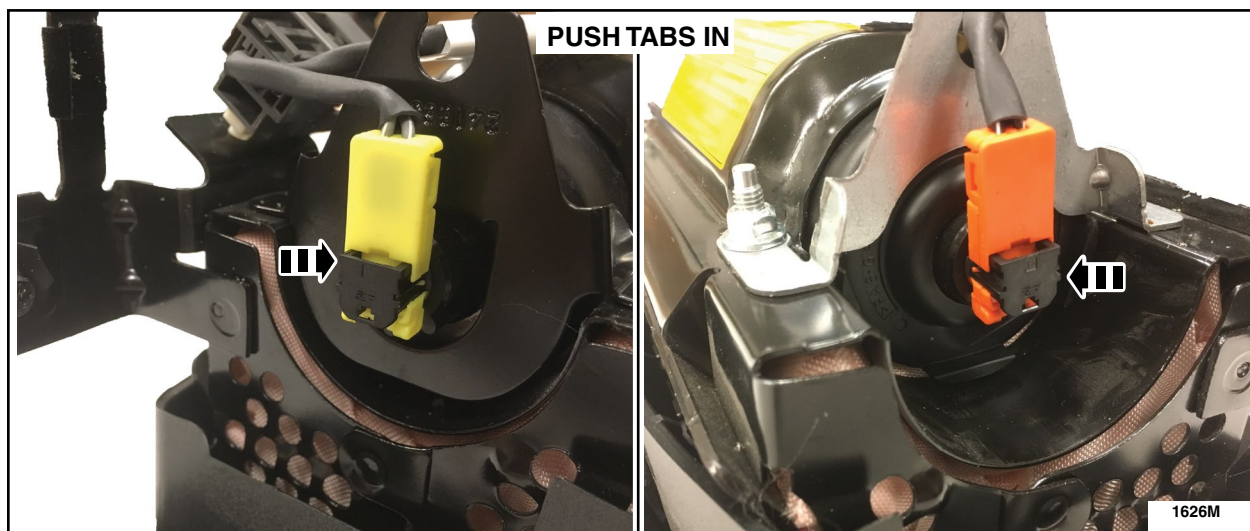

FIGURE 11
13. Align the T-shape index on both the wiring harness electrical connector and the airbag inflator. Install the *new* wiring harness onto the passenger airbag module and connect to both sides of the inflator and fully seat the orange and yellow tabs. See Figure 11.